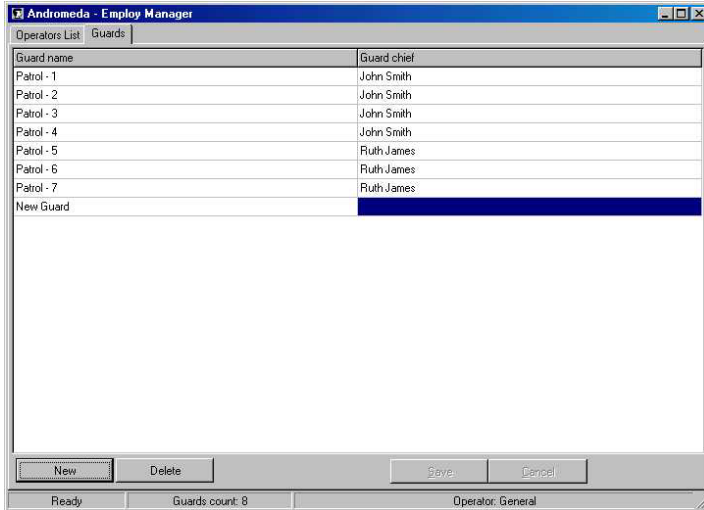

Figure 10 - Managing Guards
- ◆ To create a new guard, press the **New** button (see Figure 10).